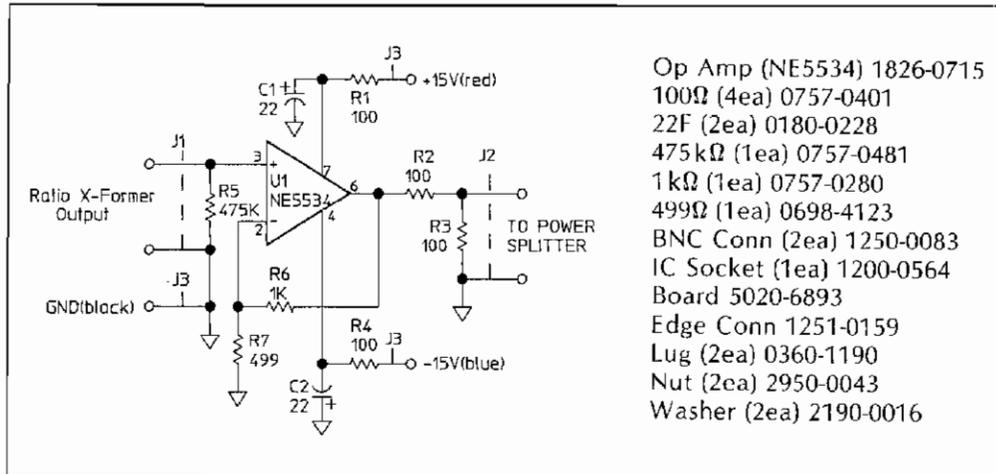

Figure 3-2 Buffer Amplifier
You will have to build a buffer amplifier to match the impedance of the ratio transformer to the 50 Ω input of the HP 3577A receivers. See Figures 3-2 and 3-3 for construction details.
- Buffer Amplifier SEE FIGURE 3-2